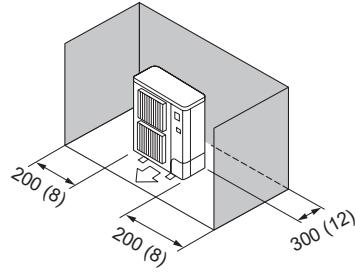

Fig. 2-8
(3) Obstacles at rear and sides only (Fig. 2-8)